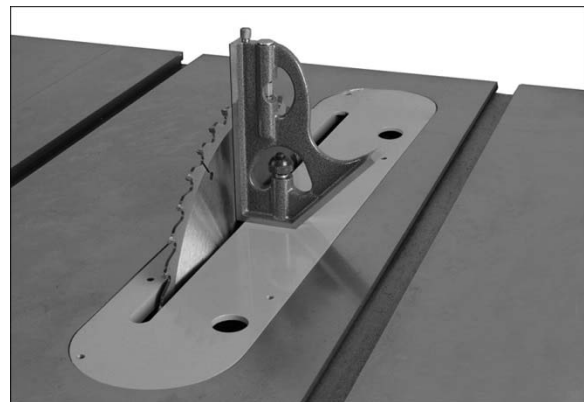

Figure 19
3. Raise blade all the way, and place a 90° square on the table and against blade (Figure 19). Make sure that a blade tooth does not obstruct the actual reading.